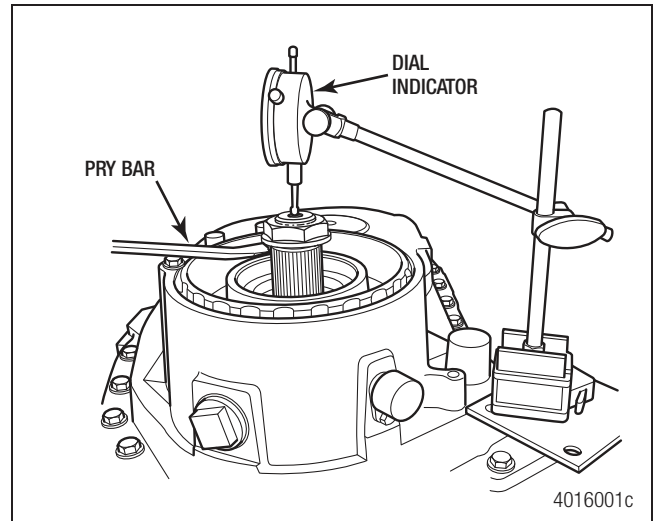

Figure 7.44
3. Use a pry bar to lift the yoke nut and measure the end play. Perform this operation two or three times, rotating the shaft in between measurements, to obtain a consistent and averaged reading. Record the reading and adjust the end play as necessary until it is in the acceptable initial range as specified in Table A on page 41. Refer to "Tools" on page 60 for adjusting ring tool information. Once end play has been achieved, perform the required adjustment shown in Table A to set the appropriate bearing preload. Figure 7.44.